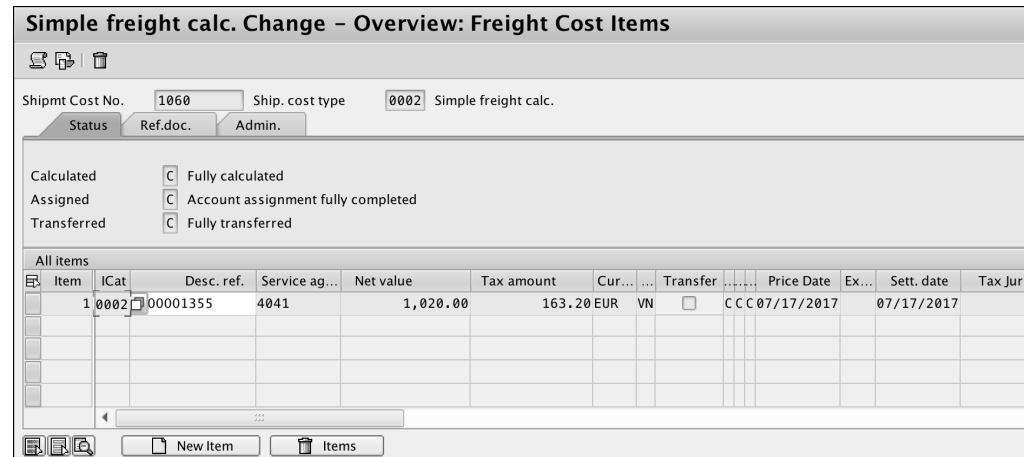

Figure 4.45 Overview: Freight Cost Items
5. After the document is saved, the costs are transferred, and the status is updated, as shown in Figure 4.45.